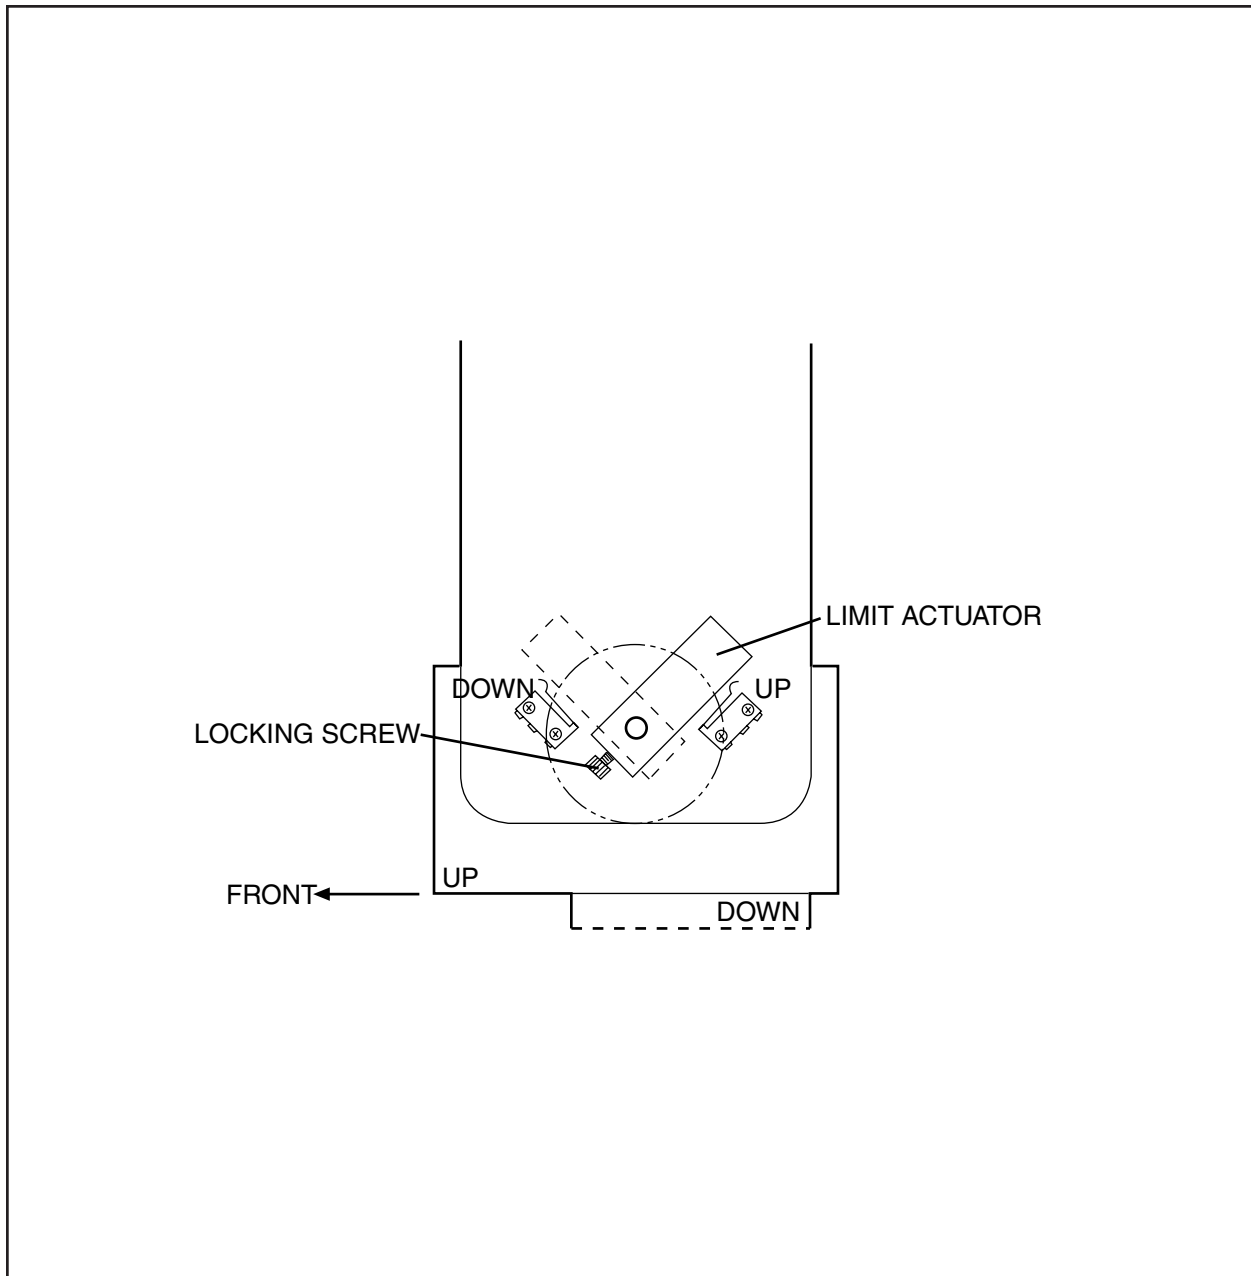

Figure 6. Tilt Limit Stop Modification
- To alter the factory set tilt limit\*, bend the actuator stops on the microswitches (see Figure 6). Move the tilt table to the desired position and adjust the actuators until the switch clicks; lock into position.